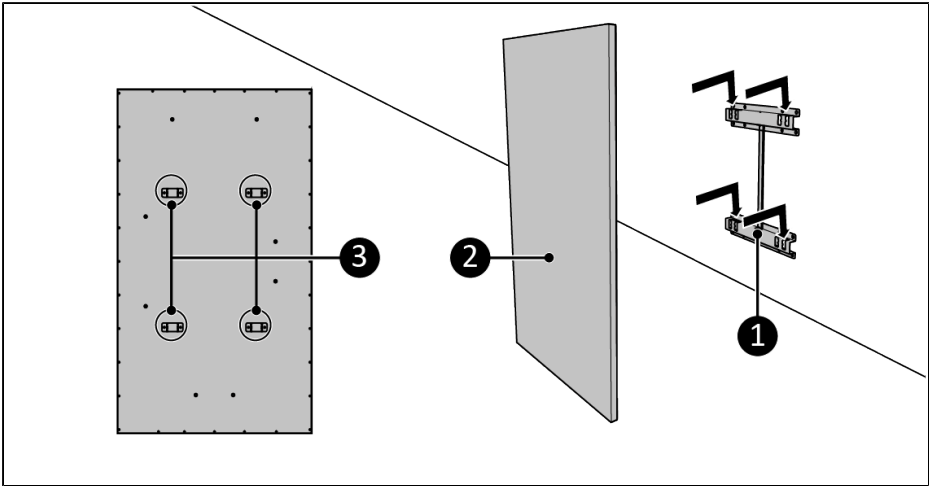

Figure 9.
5. Place the device brackets (Figure 9, pos. 3) over the wall bracket (Figure 9, pos. 1).
6. Slide the device (Figure 9, pos. 2) into the openings of the wall bracket (Figure 9, pos. 1).